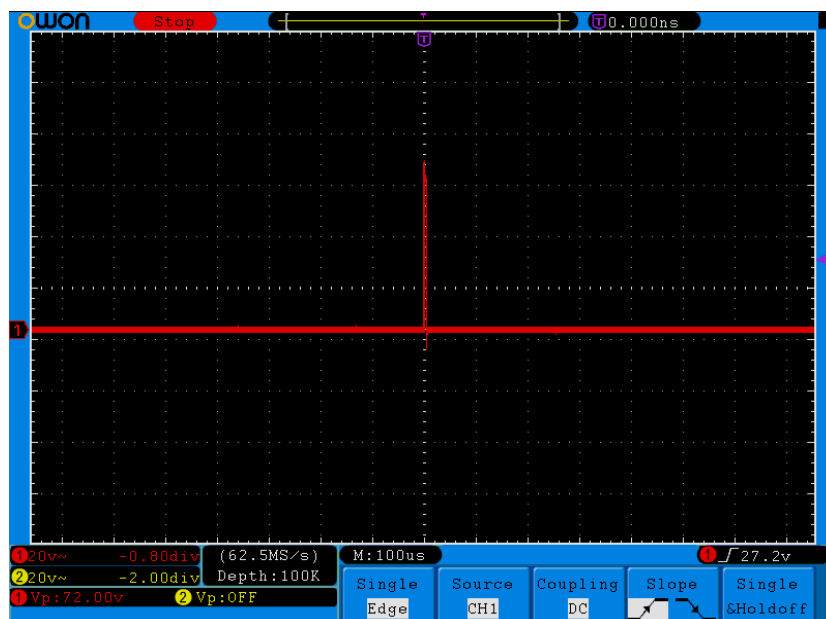

Figure 7-3 Capturing a Single Signal
- (5) Press the **F2** button to choose **Peak detect**.
- (6) Press the **Trigger Menu** button to display the Trigger menu.
- (7) Press the **H1** button to display the Trigger Type menu.
- (8) Press the **F1** to choose **Single** as the type.
- (9) Turn the **M** knob to choose **Edge** as the mode.
- (10) Press the **H2** button to display the **Source** menu.
- (11) Press the **F1** button to choose **CH1** as the source.
- (12) Press the **H3** button to display the Coupling menu; press the F2 button to choose **DC** as the Coupling.
- (13) Press the **H4** button to choose  (rising) as the Slope.
- (14) Rotate the **TRIG LEVEL** knob and adjust the trigger level to the roughly 50% of the signal to be measured.
- (15) Check the Trigger State Indicator on the top of the screen, if it is not Ready, push down the **Run/Stop** button and start acquiring, wait for trigger to happen. If a signal reaches to the set trigger level, one sampling will be made and then displayed in the screen. By using this approach, a random pulse can be captured easily. For instance, if we want to find a burst burr of high amplitude, set the trigger level to a slightly higher value of the average signal level, press the **Run/Stop** button and wait a trigger. Once there is a burr occurring, the instrument will trigger automatically and record the waveform during the period around the trigger time. By turning the **HORIZONTAL POSITION** knob in the horizontal control area in the panel, you can change the horizontal triggering position to obtain the negative delay, making an easy observation of the waveform before the burr occurs (see Figure 7-3).